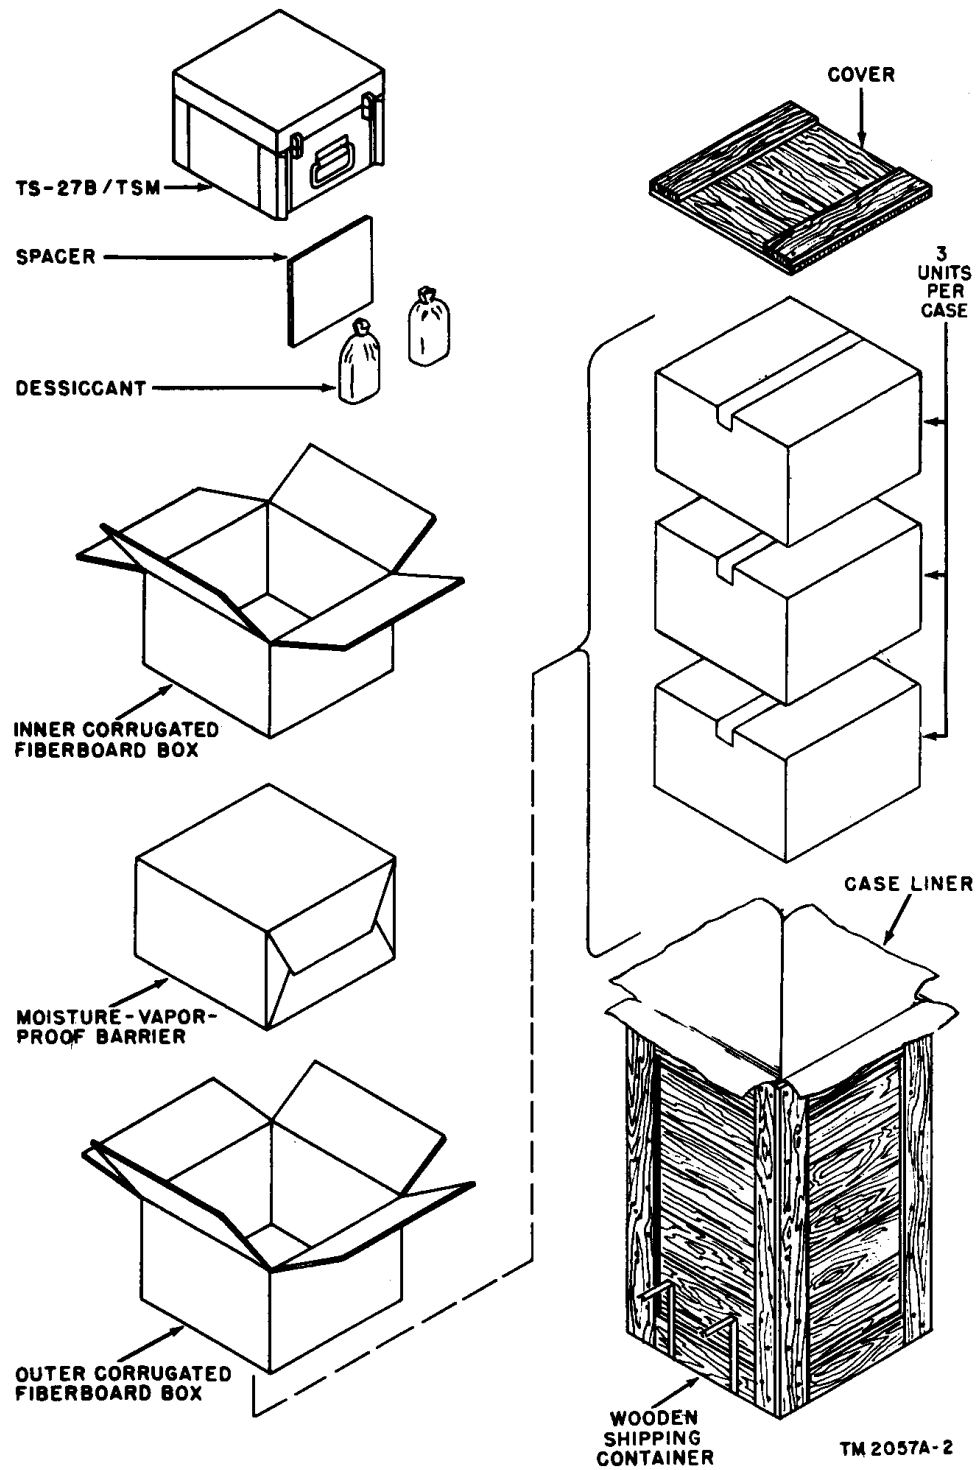

Figure 2. Test Set TS-27B/TSM, Packaging Data.
a. DOMESTIC. When packed for domestic shipment one Test Set TS-27B/TSM is placed in a moisture-vapor-proof container. Three of these containers are then placed in a wooden shipping container. A typical illustration for domestic shipment is shown in figure 2. The size, weight, and volume are shown in the table below.
- c. Remove nails from the top of the shipping container (fig. 2) with a nail puller.